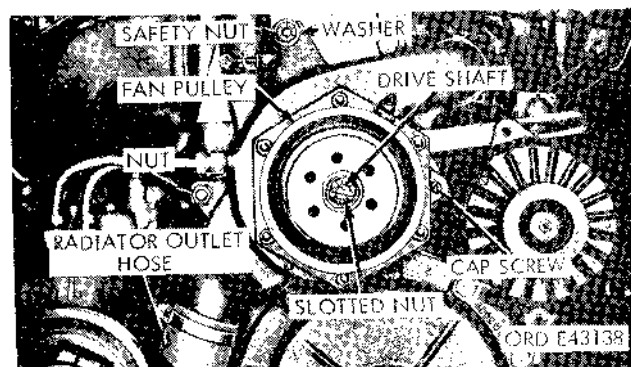

Figure 2-133. Removing fan pulley.
- (7) Remove the drive belts (para 2-111 *b*).
- (8) Remove the cotter pin, slotted nut, lockwasher, and washer (fig. 2-133) from the water pump drive shaft. Pull the fan pulley from the shaft.
- (1) Slide the fan pulley (fig. 2-133) on the water pump drive shaft, and secure the pulley with the washer, lockwasher, slotted nut, and cotter pin.